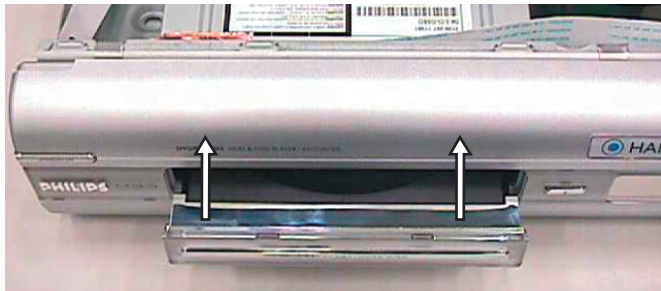

Figure 4-2: Remove tray cover assembly
- 2) Remove the Tray cover assembly as shown in Figure 4-2.